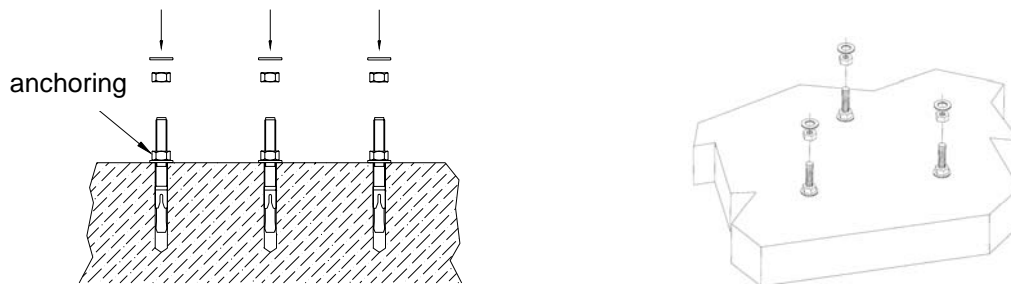

Fig.3
- Screw hexagonal nuts with washers as shown (fig.3);